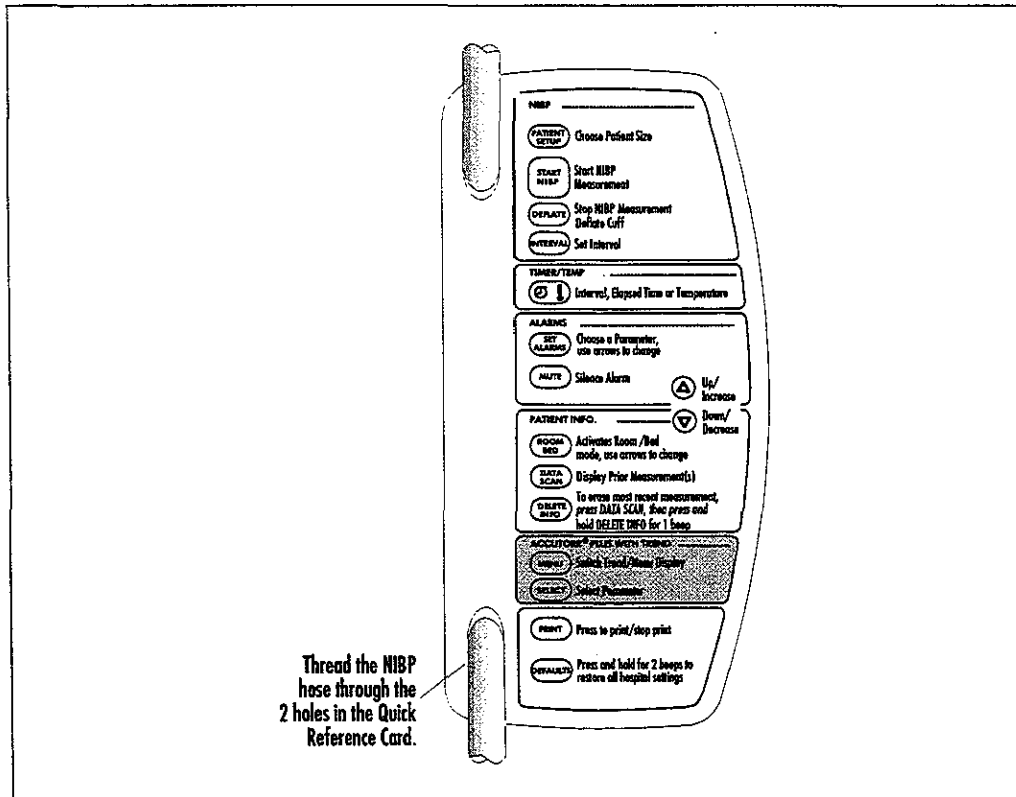

Figure 1-22 Placement of Quick Reference Label
**NOTE:** The card shown in figure 1-22 is a sample to show how to attach the card. The actual card may differ.